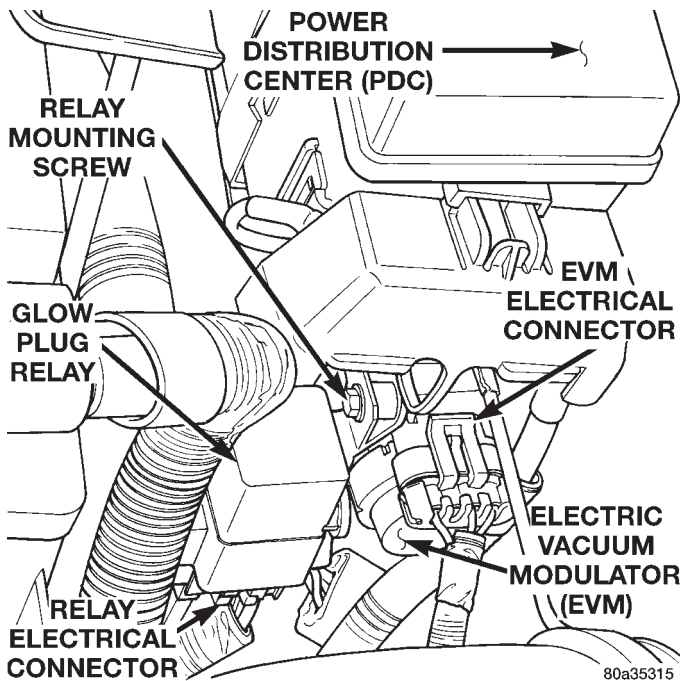

Fig. 15 Glow Plug Relay Location
(7) Be sure that the electrical connections at the glow plug relay are tight and not corroded. The glow plug relay is located in the engine compartment on the left-inner fender (Fig. 15).